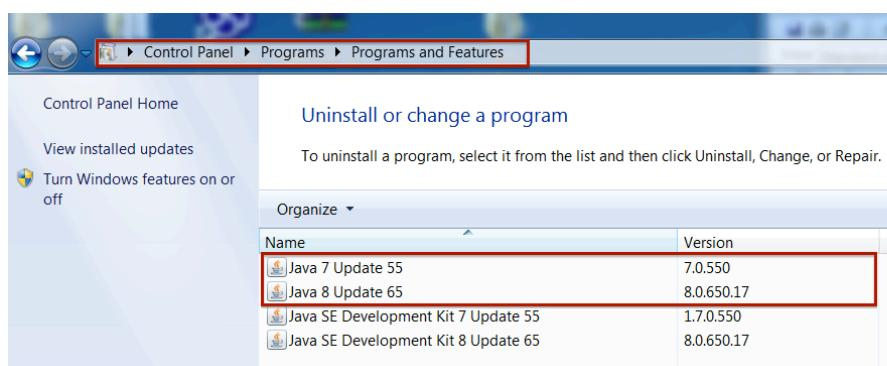

Figure 1: Required Java Versions
- Java Runtime Environment (JRE) 1.8.0_65 and 1.7_0_55. Please verify the installed java versions in your computer (see Figure 1).